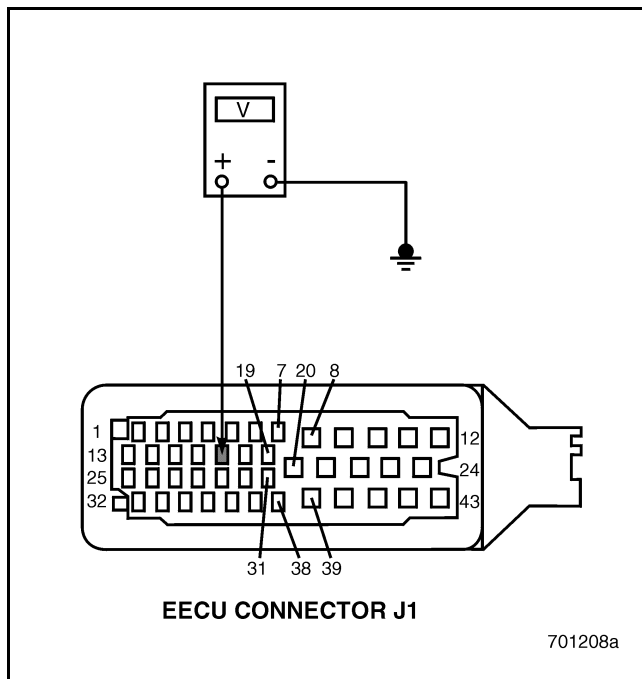

Figure 144
5. Measure the voltage between EECU harness connector J1 pin 17 and a good ground (see Figure 144).